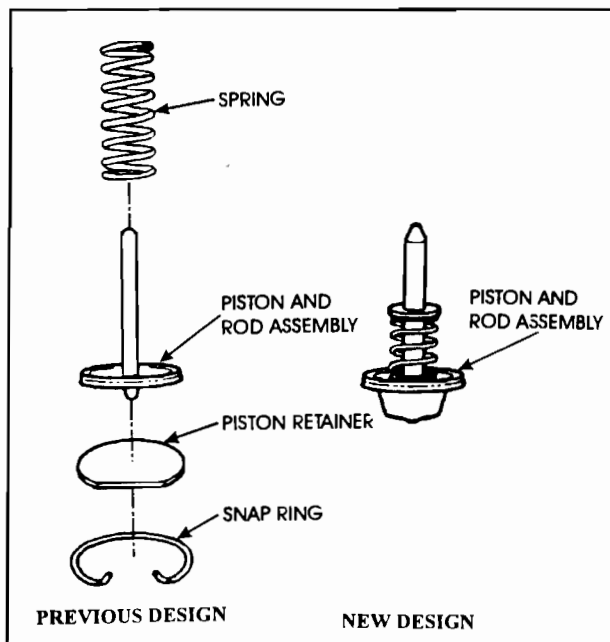

Figure 1
CHANGE: Beginning on August 8, 1995, all 1996 model E4OD transmissions were produced with a new design Intermediate Band Servo Assembly (See Figure 1)
PARTS (1) INTERMEDIATE SERVO PISTON -Total change in design Fig.1
AFFECTED: (2) SERVO PISTON RETAINER-Eliminated see Figure 1.
(3) RETAINING SNAP RING-Eliminated see Figure 1
ACTION: Until the new design parts (Figure 1) are fully stocked, the current service parts (Figure 1) must be used to replace the new design parts. When replacing either the new design bonded seal piston or the overdrive/intermediate cylinder assembly, replace both with current level (previous design) overdrive piston, inner piston seal and the overdrive/intermediate cylinder. Refer to part replacement chart for correct part usage.